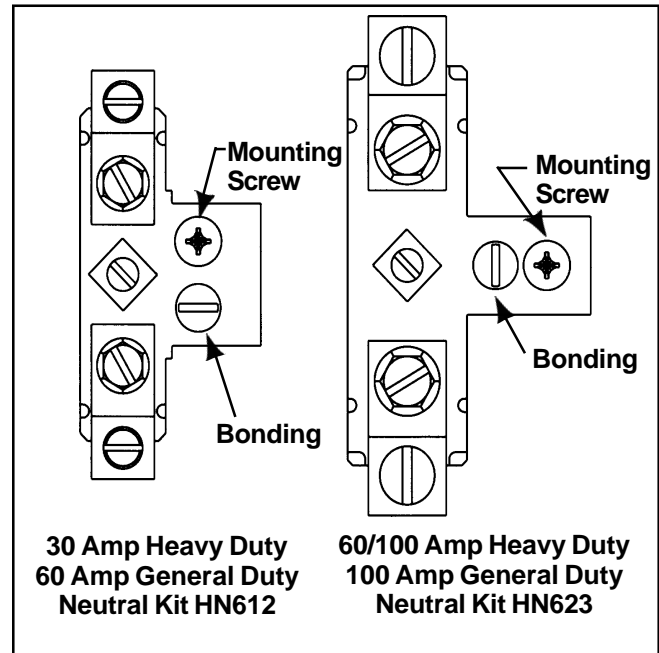

Fig. 2
4. Secure neutral with screw provided, see Fig. 2 for mounting and bonding locations. Torque to 30 lb.-ins.